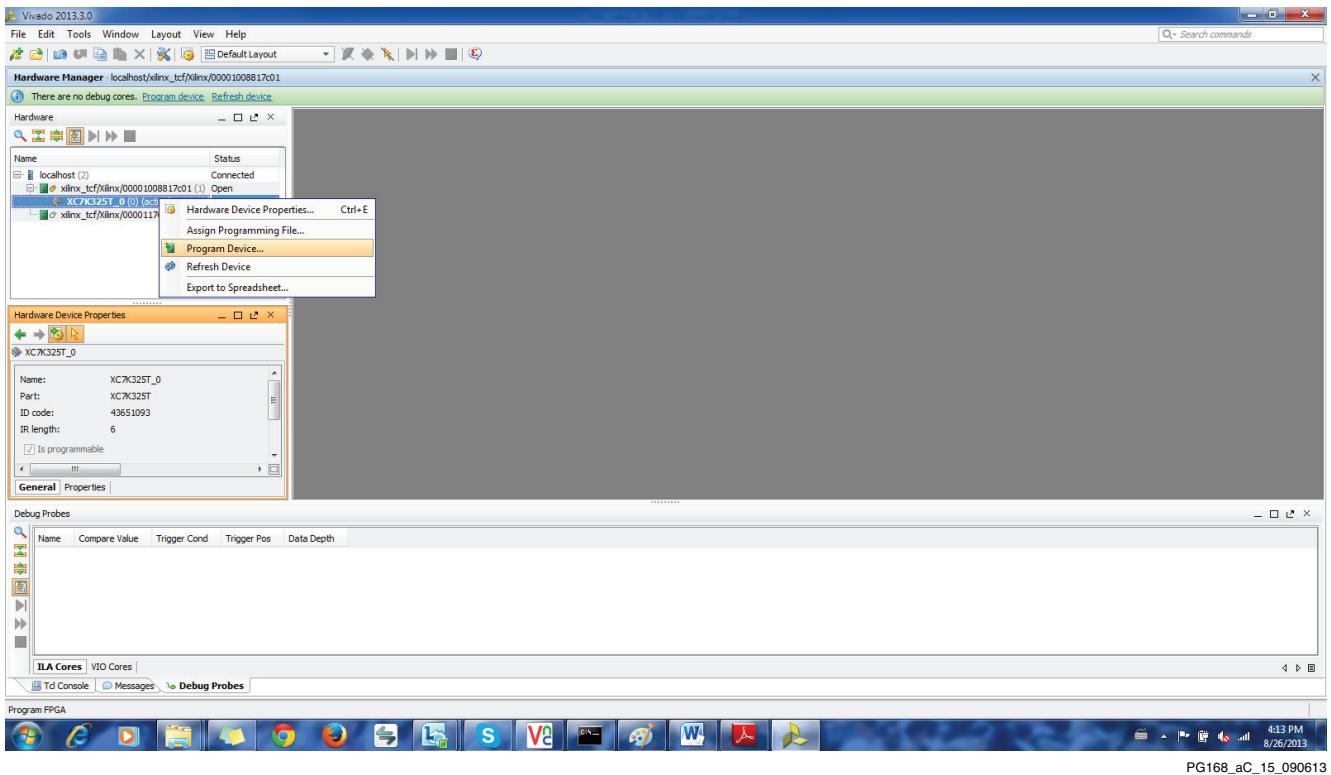
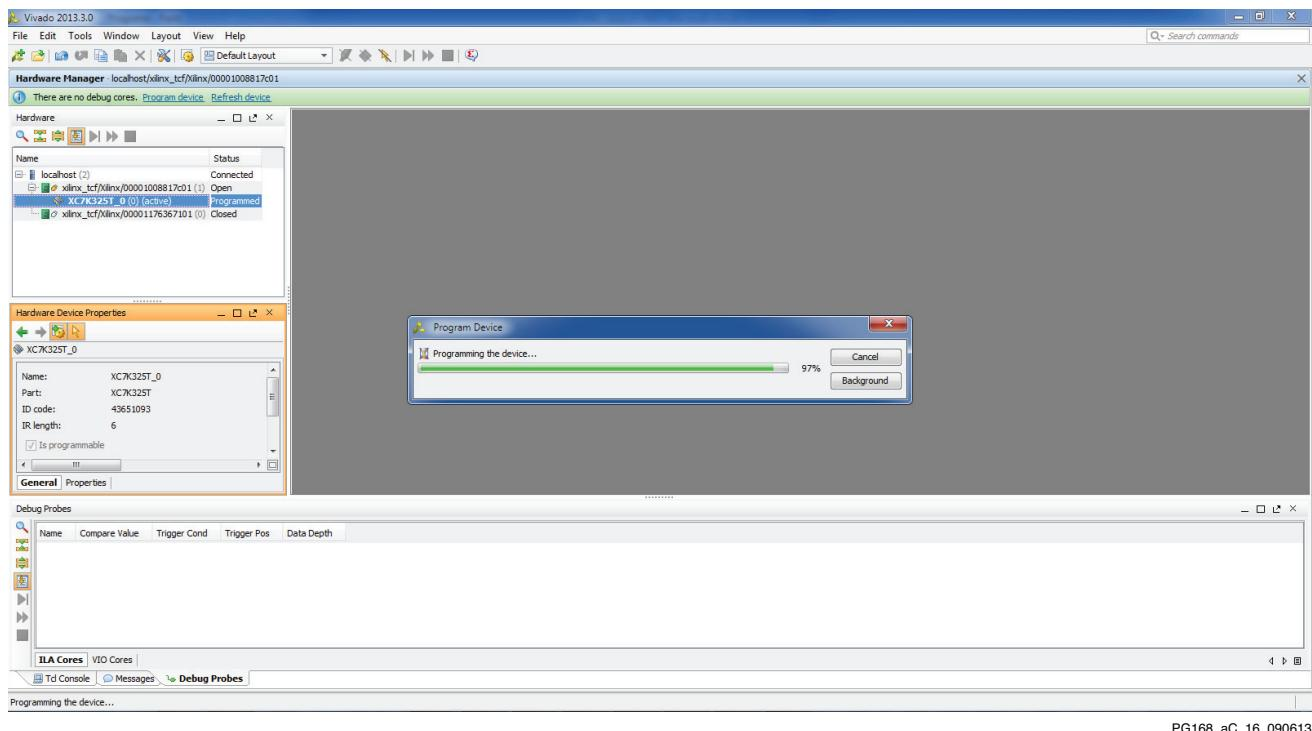

Figure C-15: Program Device (1)
Figure C-16: Program Device (2)
19. Right-click the device and select **Program Device** as shown in Figure C-15 and Figure C-16. Make sure the bit file location is correct, and click **OK**.